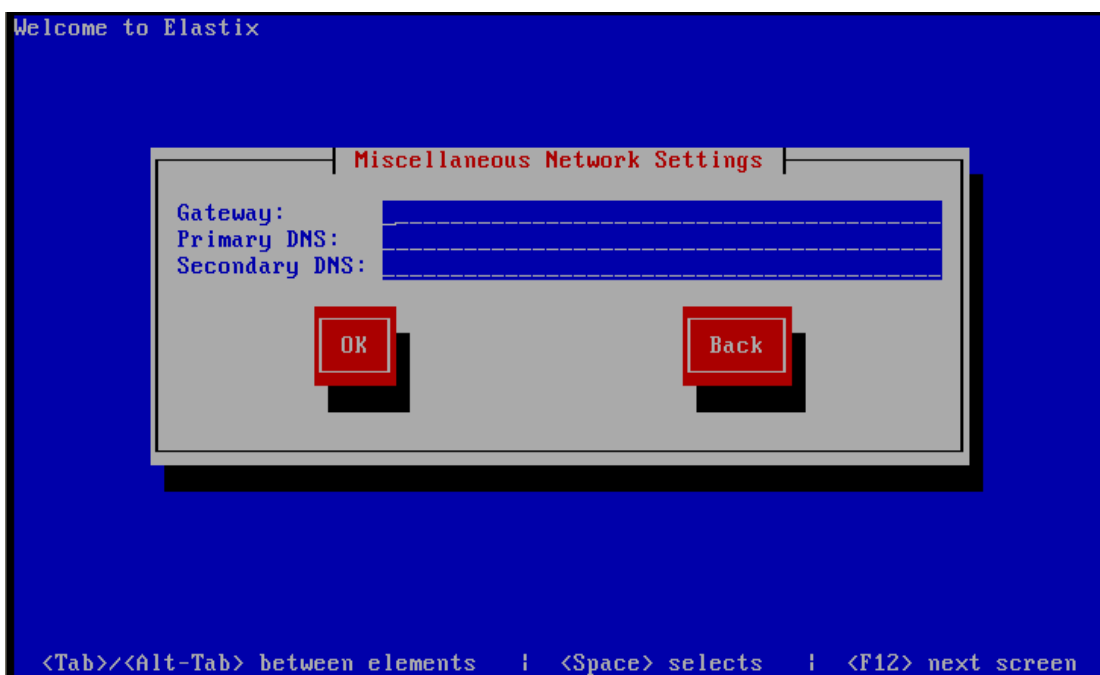

Figure 9
- Next, enter the gateway address, the primary DNS address and the secondary DNS address, and then click 'OK' (Figure 9).